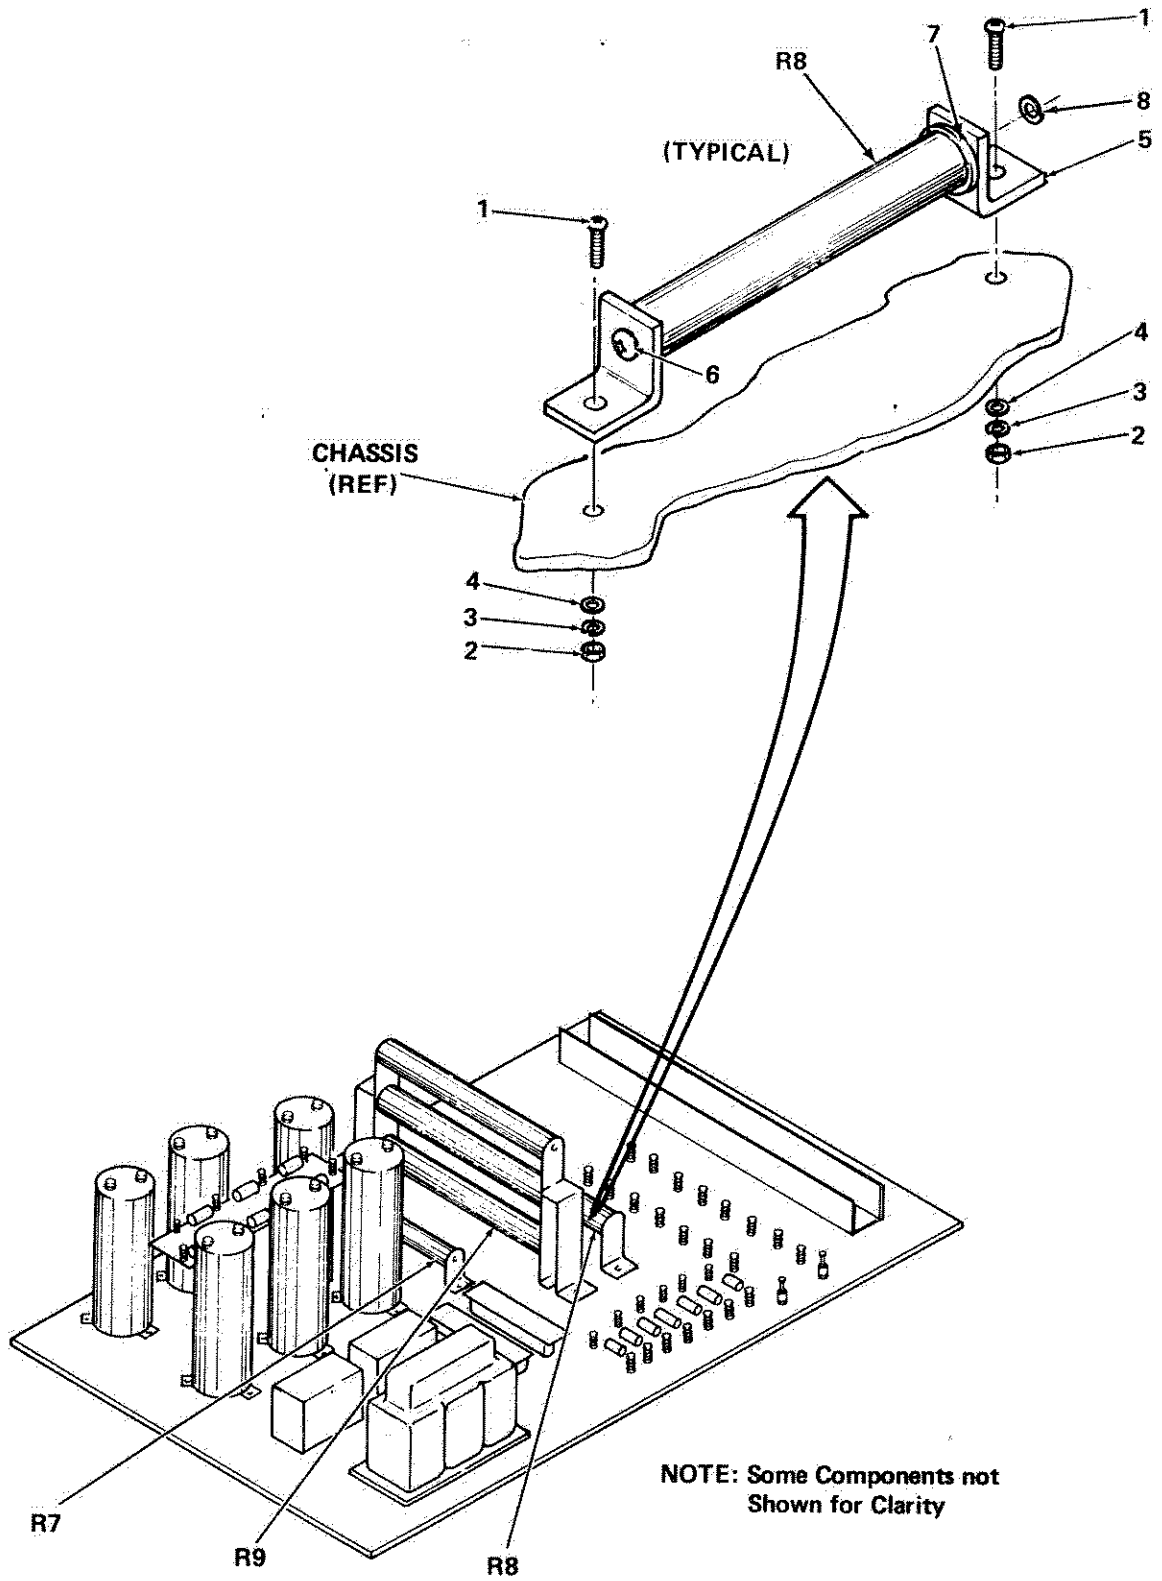

Figure 6-128. R7, R8 or R9 Removal/Installation
d. Envelope (6) installation.
- (1) Position envelope (6) so WARNING decal (24) is as shown in Figure 6-128. Slide envelope over resistor (16) and line up screw holes with those of bottom contact (17).
- (2) Install lockwasher (15), two flat washers (14), and screw (13); three places.
e. Top contact (1) reassembly.
6-9.3.9 R7, R8, or R9 Removal. Refer to Figure 6-128 and perform the following.
6-9.3.10 R7, R8, or R9 Installation. Refer to Figure 6-128 and perform the following.